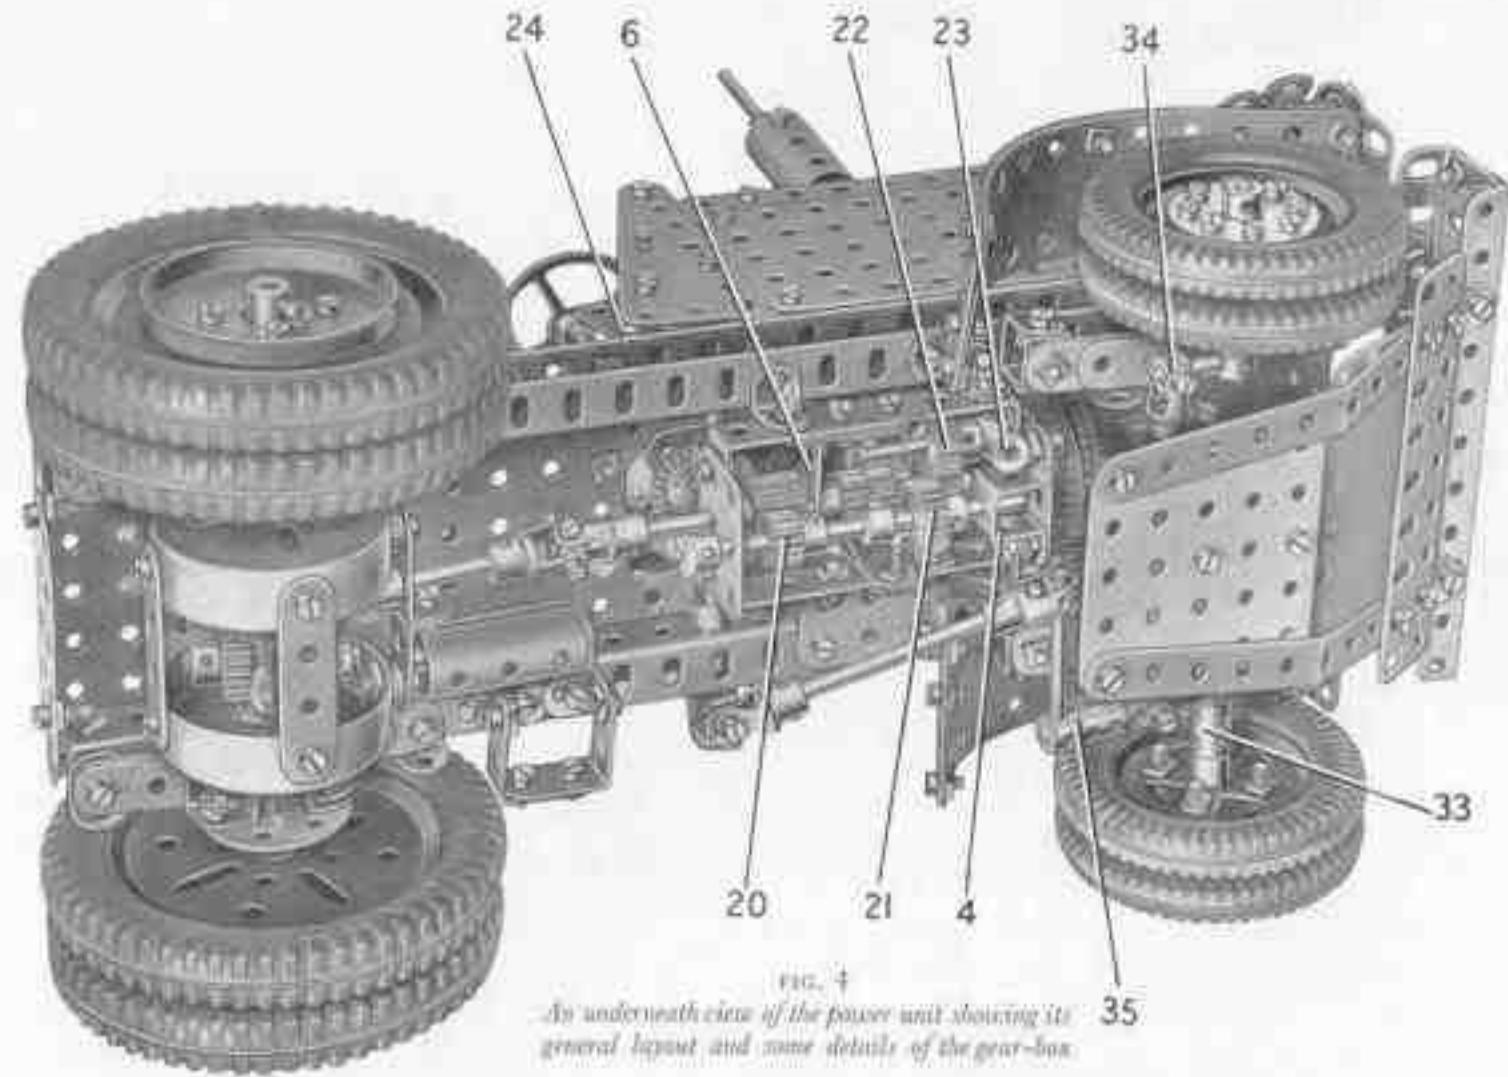
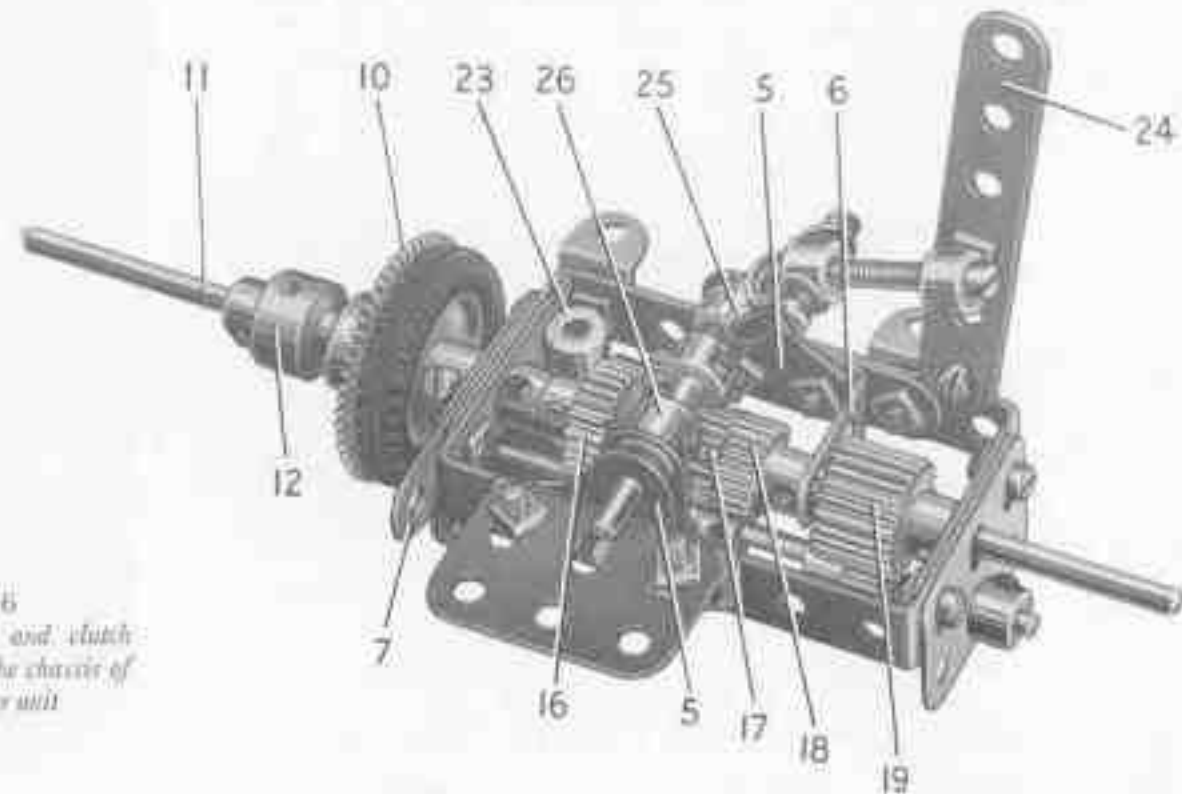
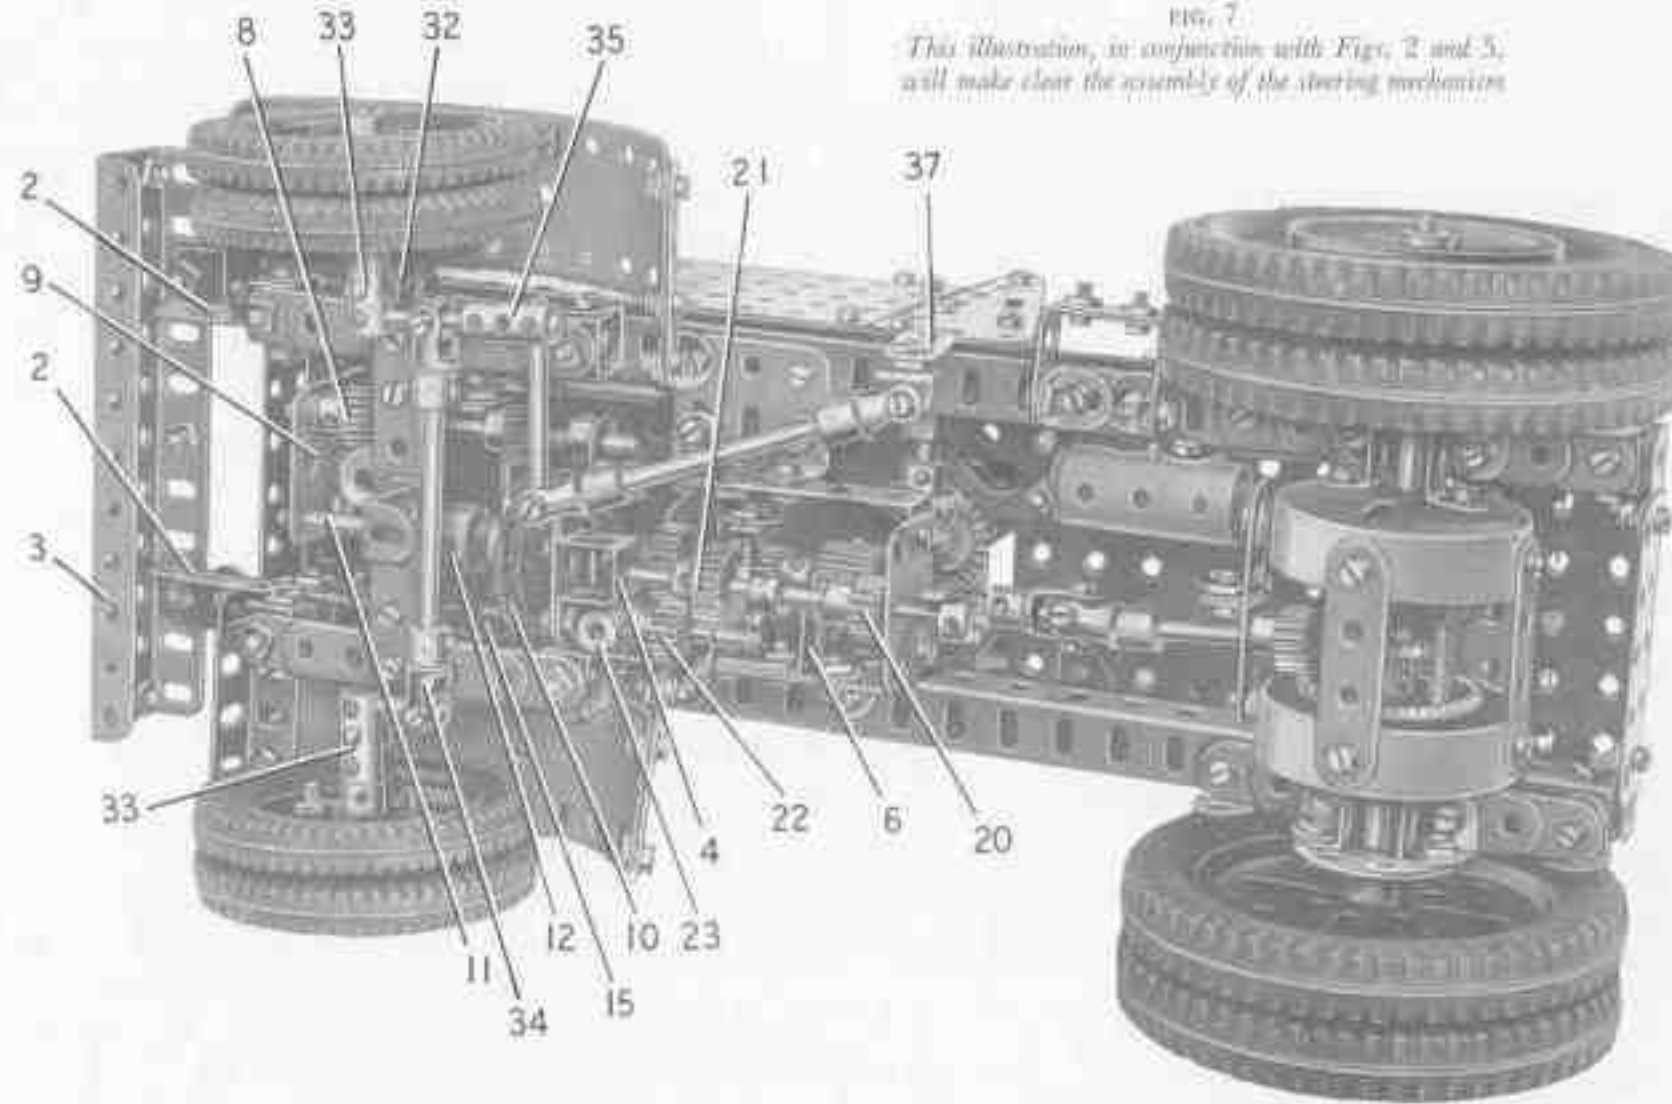

FIG. 4
FIG. 6
FIG. 7
side-members are connected by a  $5\frac{1}{2}'' \times 3\frac{1}{2}''$  Flat Plate and a  $3\frac{1}{2}''$  Angle Girder (1), to which a  $2\frac{1}{2}''$  Flat Girder is bolted. Each side-member is extended forward three clear holes by a  $2\frac{1}{2}''$  Angle Girder (2) (Fig. 7), and to these is bolted a  $5\frac{1}{2}''$  Angle Girder. A  $5\frac{1}{2}''$  Flat Girder is fixed to the  $5\frac{1}{2}''$  Angle Girder to support a further  $5\frac{1}{2}''$  Angle Girder (3). Two Flat Trunnions are bolted to the front edge of the  $5\frac{1}{2}'' \times 3\frac{1}{2}''$  Flat Plate as shown in Fig. 2.
An E15R Electric Motor is bolted by one of its flanges to one side-member of the chassis, and is connected to the other side-member by two Fishplates (see Fig. 2). The frame of the gear-box consists of two  $3'' \times 1\frac{1}{2}''$  Double Angle Strips bolted together by their lugs, with a  $1\frac{1}{2}''$  Flat Girder attached at each end by bolts passed through its slotted holes. To one of the Flat Girders is fixed a Double Bent Strip (4) (Fig. 4), and to each Double Angle Strip is bolted a  $1''$  Corner Bracket (5) (Fig. 6). A  $1'' \times 1''$  Angle Bracket (6) is attached
Two Angle Brackets also are bolted to one side of the frame, and these are fixed direct to the chassis side-member. Two further Angle Brackets are spaced from the other side of the frame by a Washer on each bolt, and a  $1\frac{1}{2}''$  Flat Girder bolted to these Angle Brackets (see Fig. 6) is attached to the chassis.
A Worm is fixed on the Motor shaft and is arranged to drive a  $\frac{1}{2}''$  diameter,  $\frac{1}{2}''$  face Pinion (8) (Fig. 7) fixed on a  $3\frac{1}{2}''$  Rod. This Rod is mounted in the Strip (7) and in a  $1\frac{1}{2}''$  Flat Girder (9) that is supported by a  $1\frac{1}{2}''$  Angle Girder bolted to the Motor. The Pinion (8) is spaced from the Flat Girder by four Washers and the Rod is held in position by a Collar. The  $3\frac{1}{2}''$  Rod also carries a  $\frac{1}{2}'' \times 1''$  Pinion that drives a 57-tooth Gear (10) on a  $5''$  Rod (11). This Rod is supported in the Flat Girder (9) and in one end of the gear-box frame, and it forms the gear-box main shaft. The Gear (10) is gripped in a Socket Coupling (12) that is free to turn on Rod (11). The Gear is pressed by a Compression Spring against a Motor Tyre on a  $1''$  Pulley fixed on Rod (11). The Compression Spring is placed between the Socket Coupling (12) and a Collar, and this assembly forms the clutch mechanism.
The Rod (11) (Figs. 6 and 7) carries, inside the gear-box frame, a Collar, a 3/4" Pinion (16) and a 1/2" Pinion (17). The Rod projects about 1/4" beyond Pinion (17) into a 1/2" Pinion (18) on the output shaft. This shaft is a 2 1/2" Rod mounted in one end of the frame and in the 1" x 1" Angle Bracket (6), and it carries also a 7/8" diameter, 1/2" face Pinion (19) (Fig. 6).
The layshaft is a 3 1/4" Rod fitted with a 1/2" Pinion (20) (Fig. 7), a Collar and a 3/4" Pinion (21). The layshaft is mounted as shown (in Fig. 7) and is free to slide in its bearings, but the sliding movement is limited by one half of a Dog Clutch, which serves as a Collar. A 1/2" reverse Pinion (22) (see Fig. 4) is retained on a 1 1/2" Rod by a Spring Clip but is free to turn on the Rod. The Rod is fixed in the centre cross hole of a Coupling (23), which is screwed as shown on to a bolt at one end of the frame. It should be noted that one of the bolts supporting the Double Bent Strip (4) (Figs. 4 and 7) is fitted with a nut before it is passed through the frame, so that the shank of the bolt is clear of the Coupling (23).
The sliding movement of the layshaft is controlled by a lever (24) (Fig. 6) which is formed by a 3" Strip lock-nutted at its lower end to the chassis. A Collar is screwed on to a bolt fixed in the lever by a nut, and a 1 1/2" Bolt fixed in the Collar is fixed also in a Swivel Bearing (25) (Fig. 6). A 3/4" Bolt passed through the boss of the Swivel Bearing is screwed into a Collar fixed on a 2" Rod mounted in the Corner Brackets (5). A Crank (26) is fixed on the Rod, with a Compression Spring between it and one of the Corner Brackets (5), and a 1/2" Bolt held in the Crank by two nuts engages between the Pinion (21) and the Collar on the layshaft (Fig. 7).
Top gear is obtained by sliding the layshaft so that Pinion (21) (Fig. 7) engages both Pinions (17) and (18) (Fig. 6). Second gear is provided by meshing Pinion (19) (Fig. 6) with Pinion (20) (Fig. 7) and Pinion (21) (Fig. 7) with Pinion (17) (Fig. 6). Reverse is obtained when Pinion (19) (Fig. 6) is in mesh with Pinion (20) and Pinion (21) engages the reverse Pinion (22) (Fig. 7), which is in constant mesh with Pinion (16) (Fig. 6).
A 3 1/4" Rod is passed through one half of the casing and on it a 1 1/2" Contrate (28) is mounted freely. A 3/4" Contrate (29) is fixed on the Rod, which extends into a Coupling (30). Two 1" Screwed Rods are fixed by nuts in the Contrate (28) and on each of them a Collar is screwed as shown. A 1 1/2" Rod passed through the Coupling (30) is fixed in the Collars. Two 3/4" Pinions are mounted freely on Pivot Bolts, which are screwed into the Coupling (30) opposite to each other. These Pinions engage the Contrate (29), and mesh also with a similar Contrate on a 3" Rod passed through the other half of the axle casing. Washers are placed on the 3" and 3 1/4" Rods so that the Pinions and Contrates mesh accurately, and so that the Contrate (28) engages a 1/2" Pinion on a 1 1/2" Rod supported in one of the Angle Brackets (27). This Rod is connected by a Universal Coupling to the gear-box output shaft (see Fig. 7).
The completed axle is connected by two Angle Brackets to each of the rear springs (see Fig. 7). These are each made from two  $3\frac{1}{2}$ " Strips and a  $2\frac{1}{2}$ " Strip and are attached to the chassis by  $\frac{1}{2}$ " Bolts, each of which is fitted with an Angle Bracket. The rear ends of the springs are spaced from the chassis by four Washers on each Bolt.
Each of the front wheels (see Figs. 4 and 7) consists of two 2" Pulleys clamped together by four ½" Bolts that fix a Wheel Disc to the face of the outer Pulley. The wheel is mounted freely on a 1½" Rod held in a Coupling (33). These Couplings are fixed on 1" Rods that are free to turn in the Cranks (32) and are
freely on a 3½" Rod that carries a ½" Bevel Gear (36). The Rod is fitted also with a Crank (37) (Fig. 7), and is held in the chassis side-members by a Collar. An Angle Bracket is lock-nutted to Crank (37) and to the Angle Bracket in turn is lock-nutted an End Bearing fitted with a 2½" Rod. This Rod is connected by a swivel bearing to a 2" Rod fixed in the Coupling (35). The swivel bearing is obtained from a Universal Coupling.
A protection plate is arranged underneath the steering mechanism as shown in Fig. 4. The plate is attached to the Girder (3) (Fig. 2) by Obtuse Angle Brackets, and is supported by a 1" Reversed Angle Bracket bolted to the axle beam.